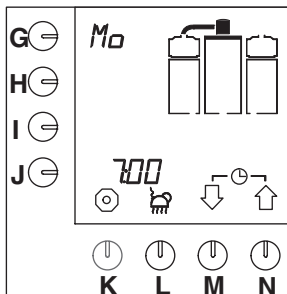

Fig. 11 Example current day and time
- The current day and time appear for a moment on the display (fig.11 ).
- The current day and time appear on the display (fig.11 ).